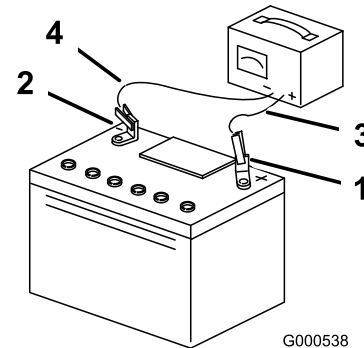

Figure 39
4. When the battery is fully charged, unplug the charger from the electrical outlet, then disconnect the charger leads from the battery posts (Figure 39).